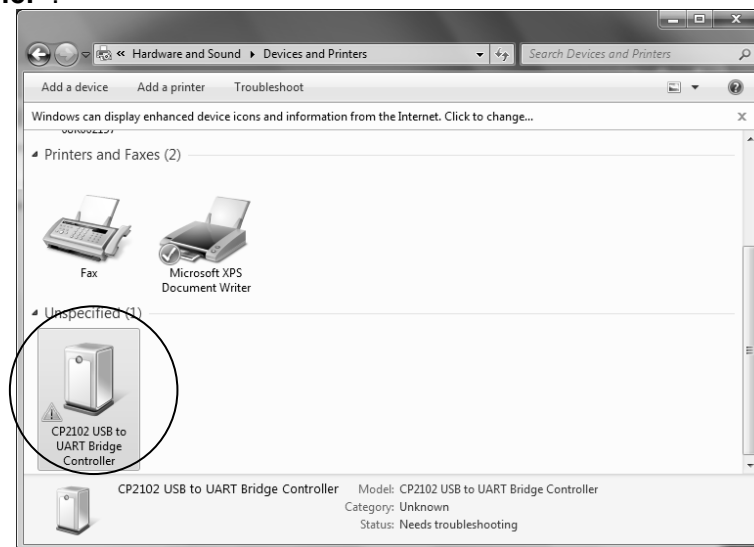

Fig. 58 Control Panel screen
- (8) The screen shown in the Fig.58 appears, Double-click the unspecified **"CP2102 USB to UART Bridge Controller"**.